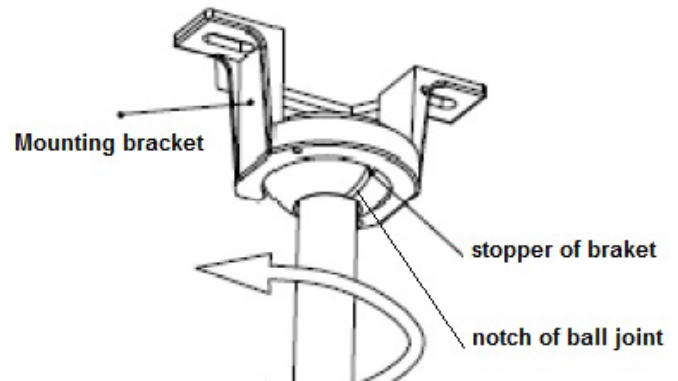

Fig.5
- Ensure the notch of ball joint is positioned on the stopper of mounting bracket to prevent fan from rotating when in operation. Fig. 5